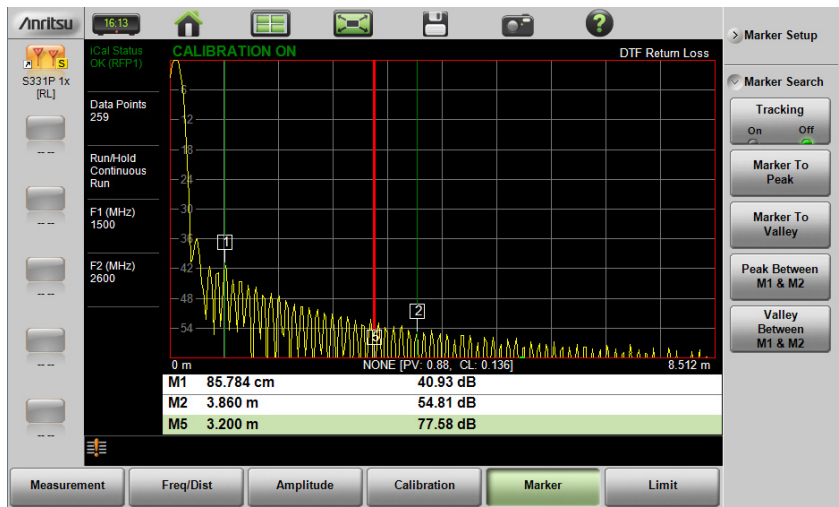

Figure 3-31. Bounded Marker Search
3. Press Marker Search and select Valley Between M1 & M2. Marker 5 will move to the valley between M1 and M2. See Figure 3-31. The valley search would also work if M1 and M2 were set and then turned off.